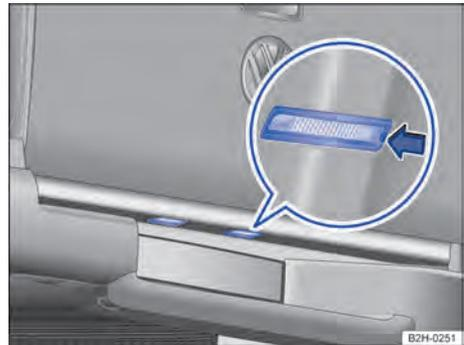

Fig. 165 In the rear cross panel under the tailboard: Number plate lights.
2. Insert a screwdriver into the recess on the number plate light in the direction of the arrow → Fig. 165.